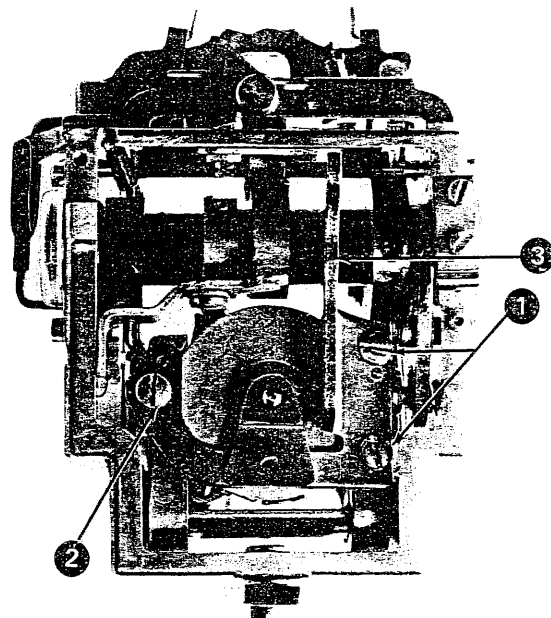

Figure 4-14. Rotate-Spring Replacement (Step 7)
- a. On machines with striker and bearing, back out the two screws (No. 1, Figure 4-14) on the right 1/4" and remove the screw on the left (No. 2, Figure 4-14).
- b. On machines with bearing only, remove the lower right and left screws and back out the right screw 1/4" (Figure 4-14).